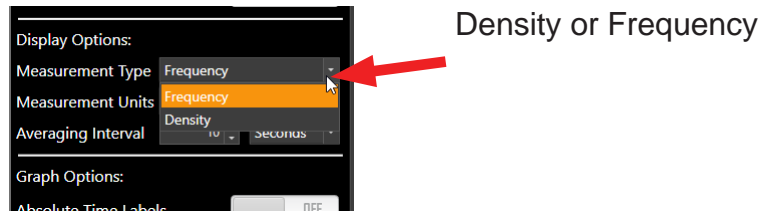

Figure 3.17: Displaying Particle Density or Frequency
- In the **Display Options**, under **Measurement Type**, select **Density** or **Frequency** (see Figure 3.17).